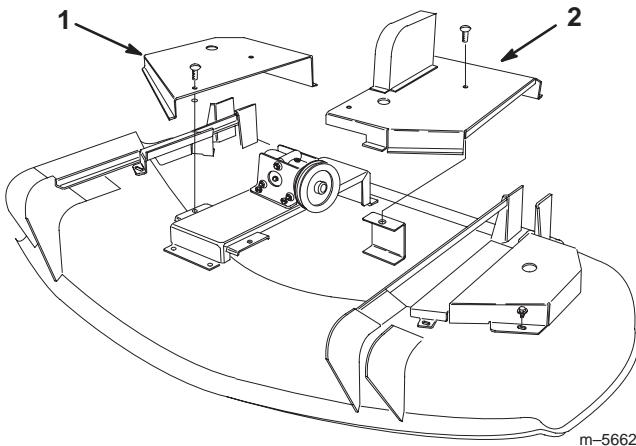

Figure 25
- Loosen the fasteners holding the left and right center deck covers and remove both center deck covers (Fig. 25).
6. Install both center deck covers onto the deck with fasteners (Fig. 25).